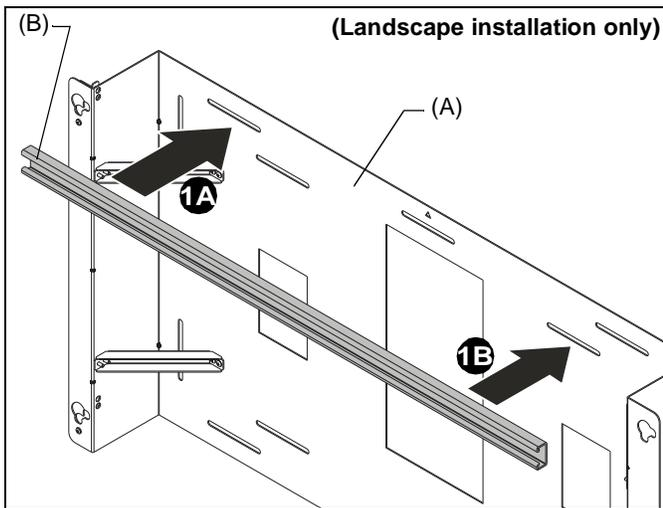

Figure 3
1. **(Landscape installation only):** Insert PSMO2086 strut channel (B) into the wall mount (A) and place over either the:
- the 24" on-center attachment points (1B). (See Figure 3)